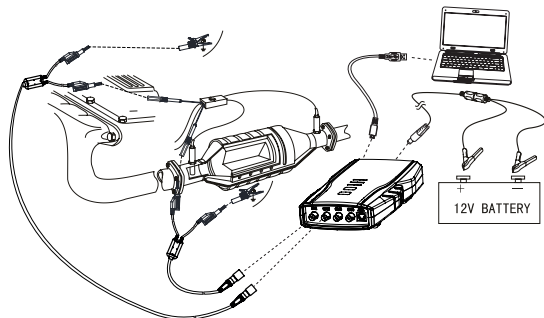

Fig. 13: Equipment connection
1. Connect equipment according to Fig.13, switch on power supply.